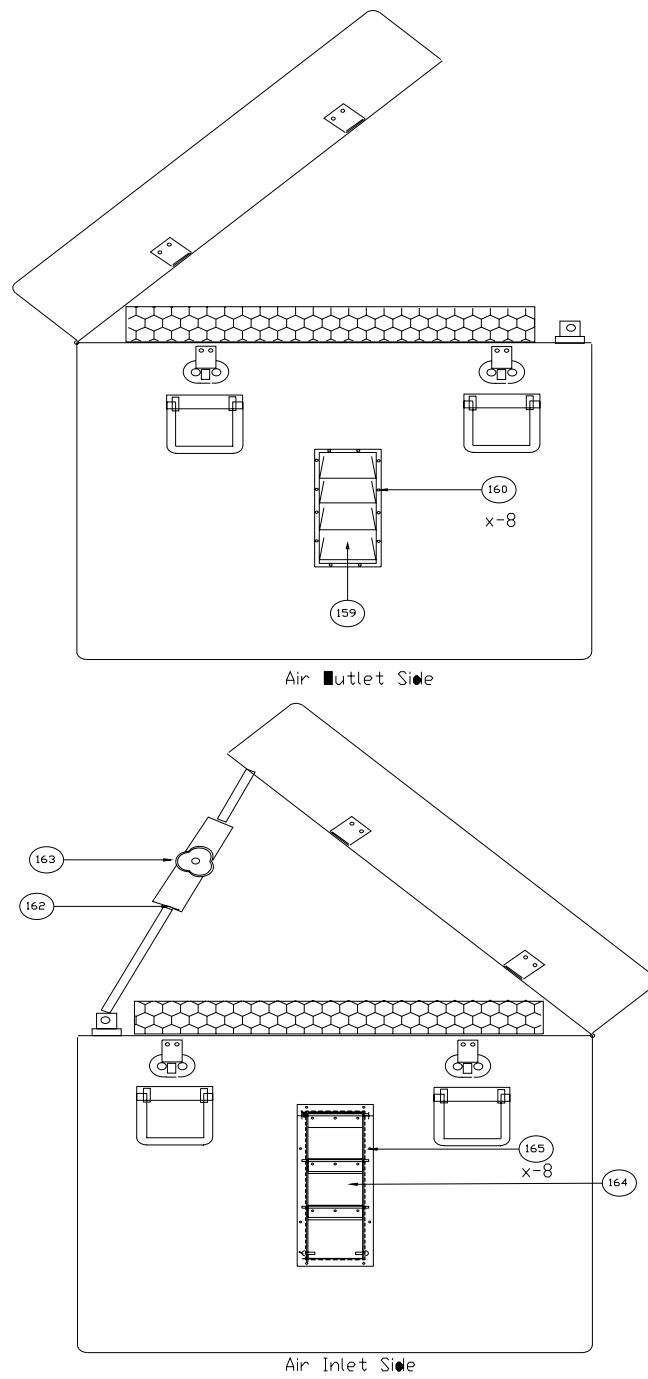

Figure 7
7.2.16 Compressor Exterior (Air Outlet Side) (Fig. 7)
7.2.17 Compressor Exterior (Supply Air Inlet Side) (Fig. 7)
(Fig. 7)